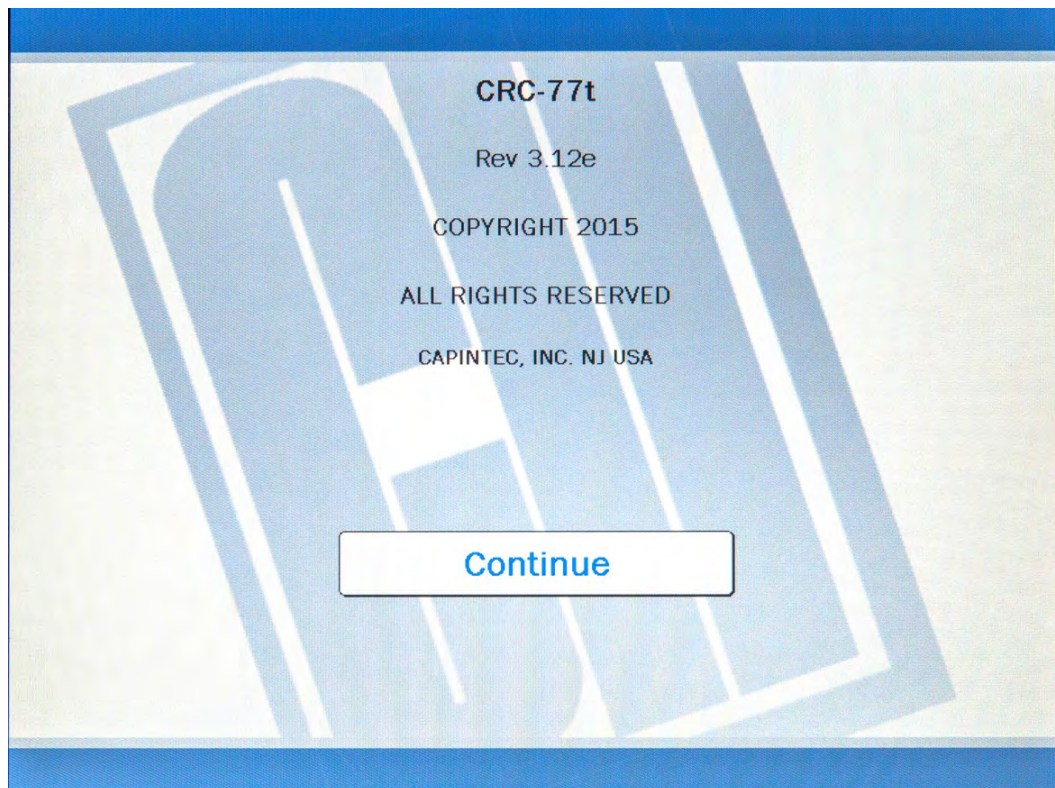

Figure 4-5 Startup Screen
6. After a few seconds, Figure 4-5 Startup Screen will appear.
Note: After powering up, the screen may be white or have colored lines for up to 30 seconds before Figure 4-5 Startup Screen appears.